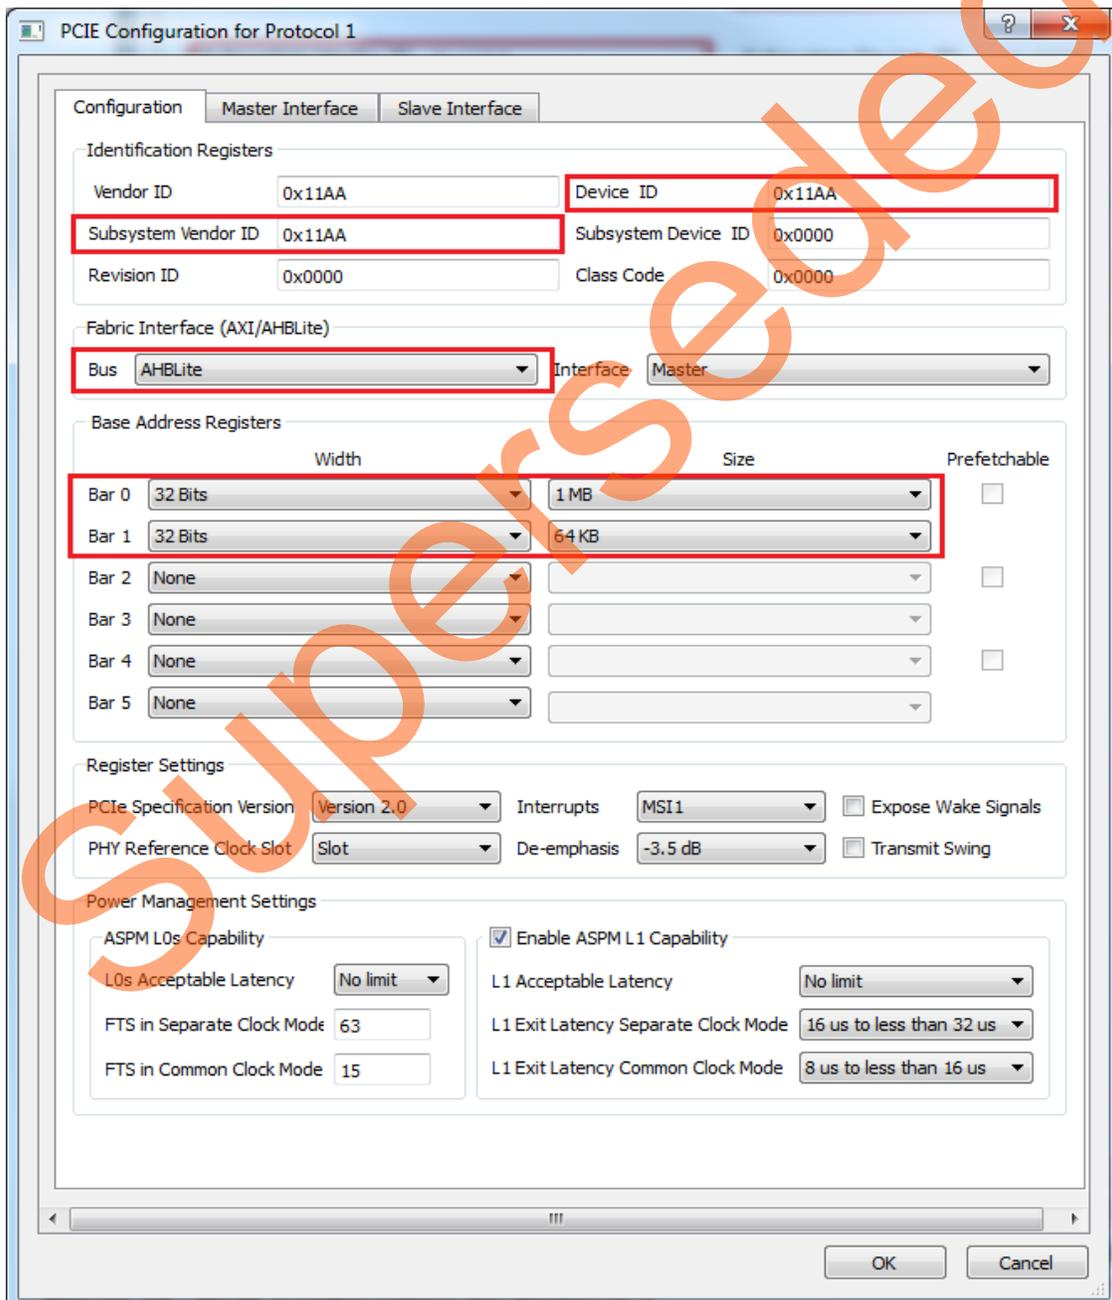

Figure 13 • PCIe Configuration for Protocol 1
3. Click **Configure PCIe** to configure the following settings as shown in Figure 13.